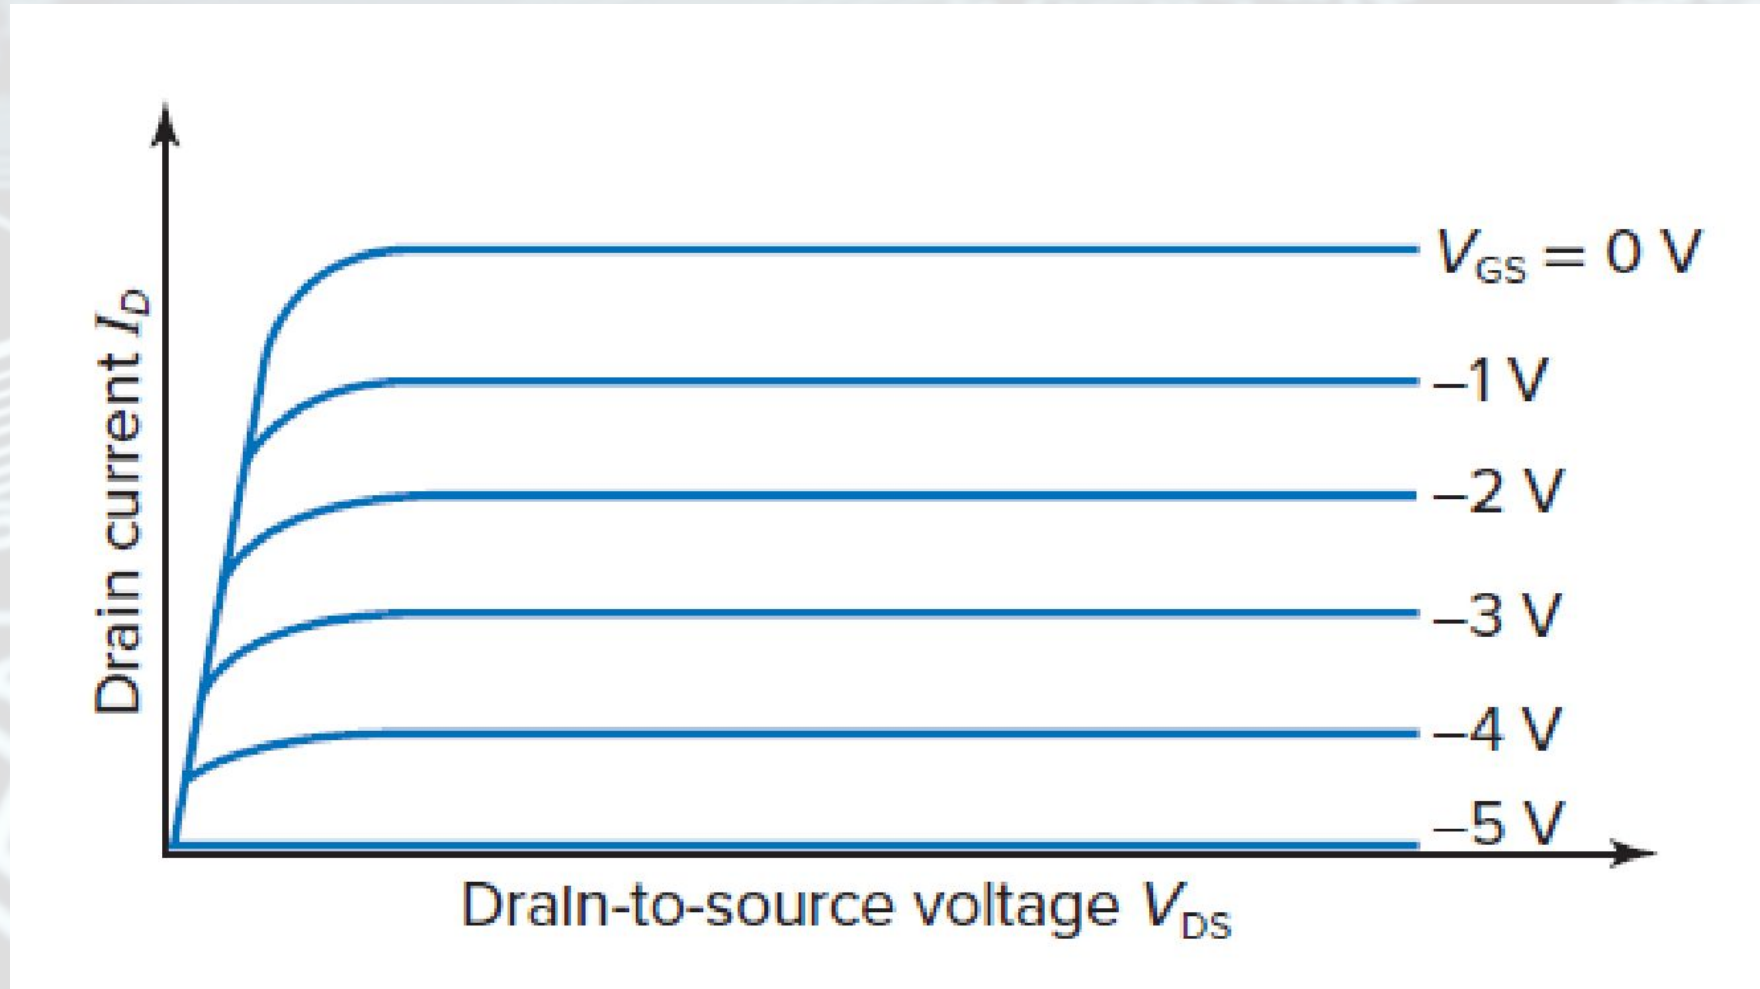

Fig. 5-21 Characteristic curves of a JFET.
Examine the curves of Fig. 5-21. Notice that as the voltage from gate to source ( $-V_{GS}$ ) increases, the drain current  $I_D$  decreases. The curves in Fig. 5-21 are sometimes divided into three regions: (1) the ohmic region where the current  $I_D$  increases rapidly from 0 to the bends, (2) the saturation region where the curves are flat, and (3) the cutoff region where the device is off and  $I_D$  is 0. Compare a JFET with a BJT: